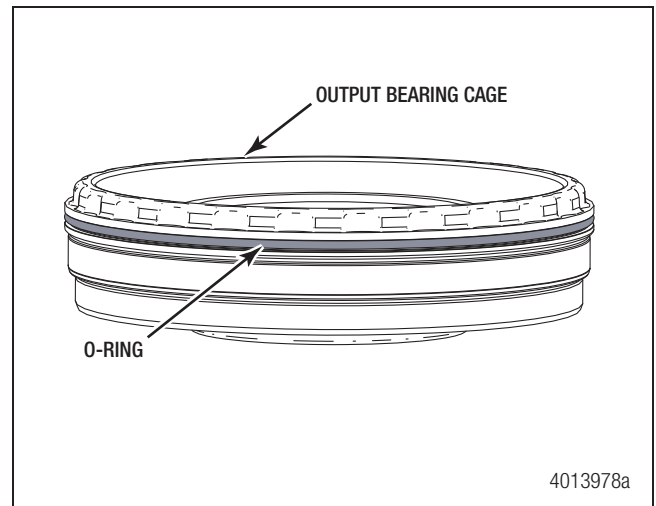

Figure 7.38
20. Install and lubricate a new o-ring on the outer bearing cage. Lubricate the o-ring on the outer bearing cage prior to installation of the bearing cage. Figure 7.38.